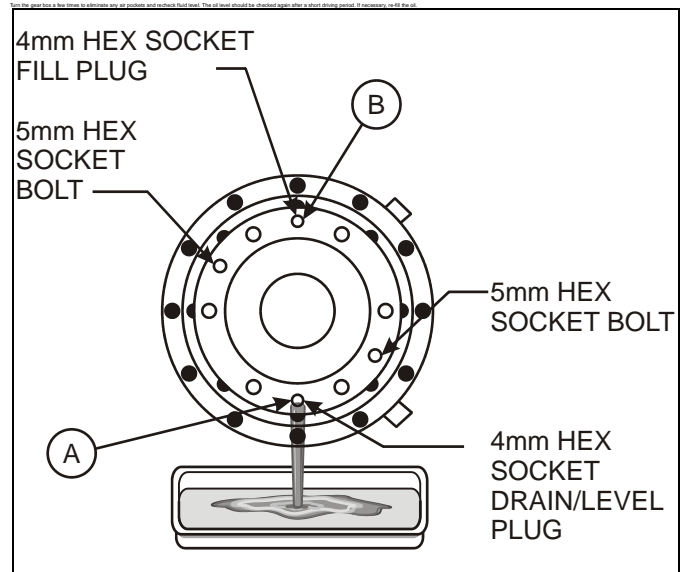

Figure 2-8 Servicing the Gear Box
7. To drain, turn the gear box so that one of the drain plugs is at the lowest point. If rotating the gear box proves difficult, brace a 2" x 4" (5cm x 10cm) between the wheel studs and rotate. See Figure 2-8.